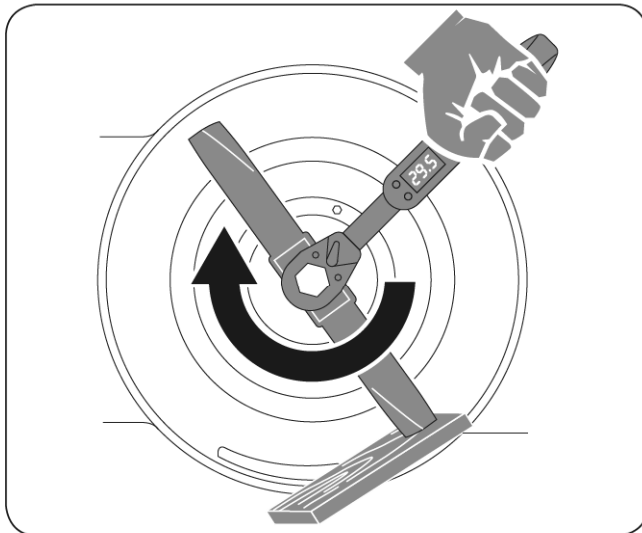

Figure 18
3. Install the new blade. Use a block of wood between the blade and lawn mower housing and tighten the blade bolt, turning clockwise. The recommended tightening torque is 25.8-29.5 ft.-lb. (35-40Nm). (See Figure 18)